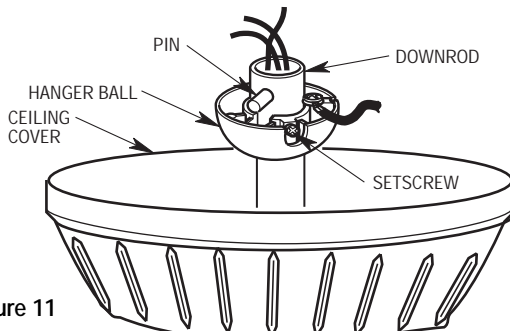

Figure 11
- 16. Route the three 80" motor leads through the hanger ball. Reinstall the hanger ball (Figure 11) on the downrod as follows. Position the pin through the two holes in the downrod and align the hanger ball so the pin is captured in the groove in the top of the hanger ball. Pull the hanger ball up tight against the pin and securely tighten the setscrew in the hanger ball. A loose setscrew could create fan wobble.